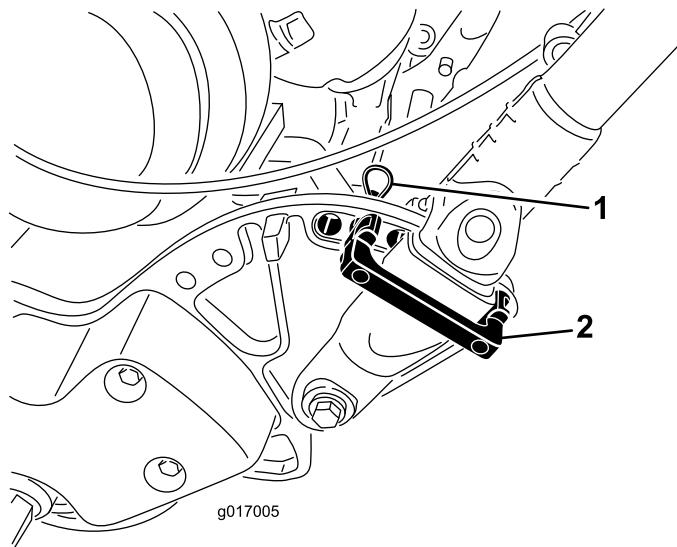

Figure 24
1. Remove the hairpin cotters from the handle retainers on each side of the mower (Figure 24).
2. While supporting the handle, remove the hairpin cotters from each side and pivot the handle to the desired operating position (Figure 24).